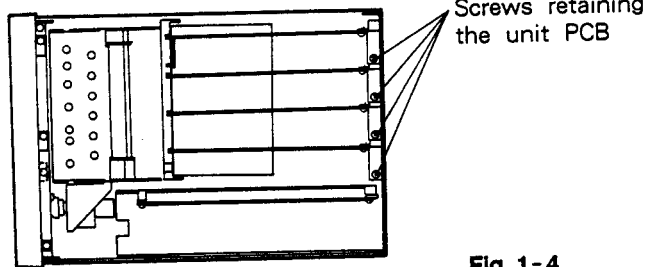

Fig. 1-4
1. As shown in Fig. 1-4, remove 4 screws retaining the PCB unit.